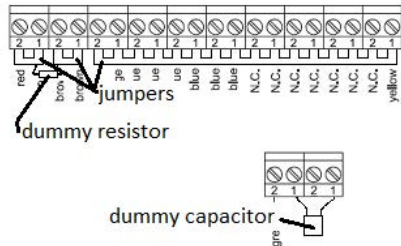

Figure 11 Location of jumpers and dummy resistor/capacitor
- Remove the black plastic shield from the VITO Interface converter block (1);
- Disconnect yellow/green ground wire (3);
- Remove front (temperature) module by loosening the two hex screws marked (2) and store at a safe place;
- Remove dummy capacitor (refer to figure 11);
There is also placed a dummy capacitor on the water probe connectors to detect the absence of a water probe. Refer to figure 11.